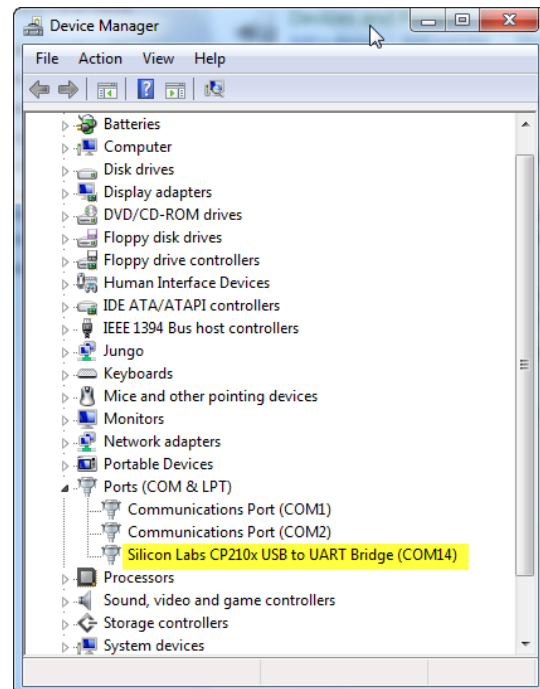

Figure 35 – Device Manager showing COM Port for A-910 Dongle
5. Locate **SILICON LABS CP210x USB to UART Bridge (COM x)** as shown in Figure 35.